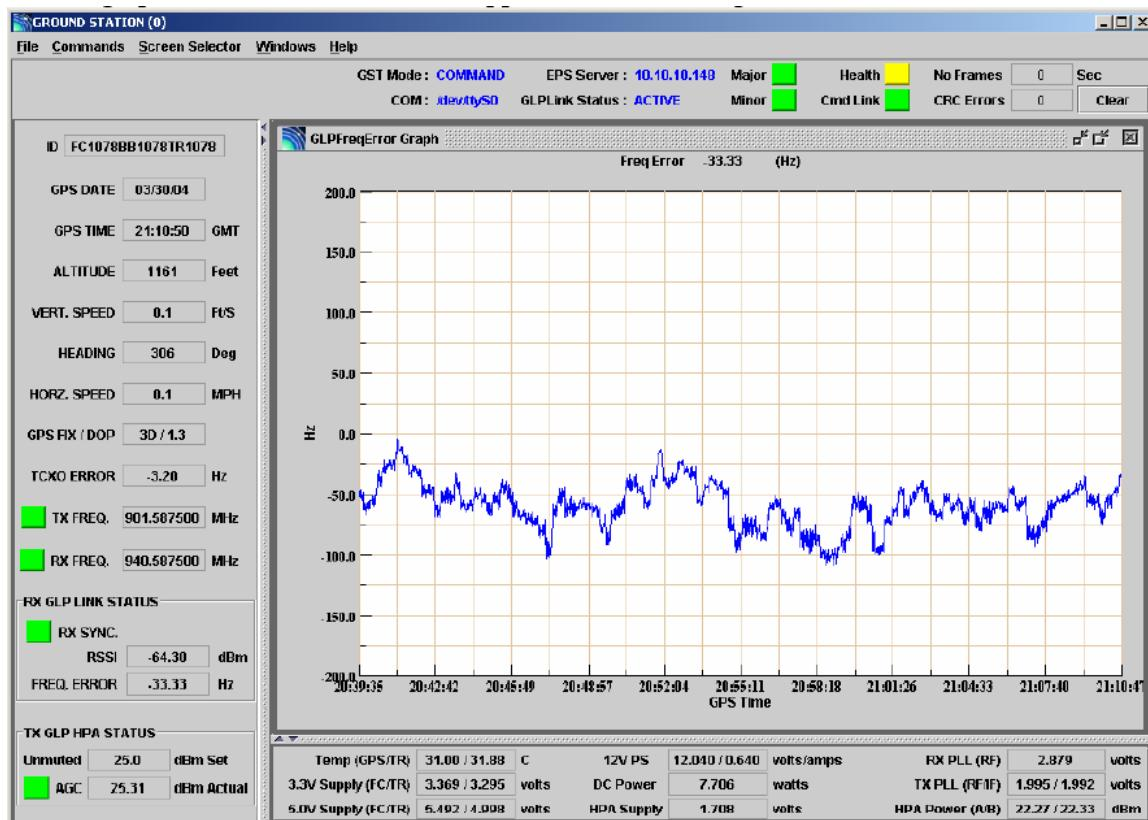

Figure 2.1 – GST Client Screen
Start all GST (Ground Station Transceiver) and SKS (SkySite) clients. Both software applications should connect to the EPS (Engineering Programming Software) server. During operation each client should appear as shown in figures 2.1 and 2.2 below.
- Attach ground wire from wall (Figure 2.1) to ground lug on table wrapping wire twice around table leg